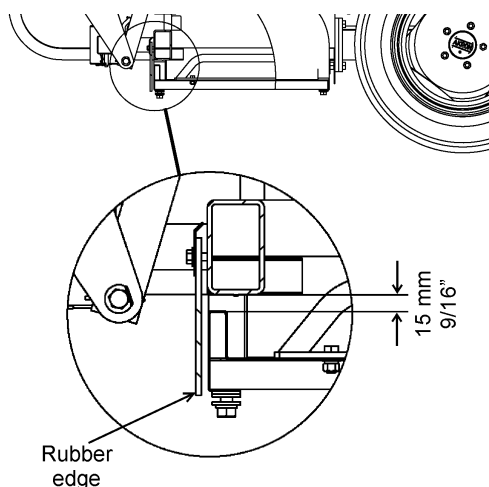

Figure 15 - Grain retainer rubber
7) Using the cranks again, tighten the tray-supporting cable until the tray is at some 10 cm (4") from the ground, parallel to the lower part of the silo tunnel. When adjusting the tray height, its lower part should coincide with the lower edge of the rubber that prevents grain returning. This way a 15 mm (9/16") clearance is set between the lower part of the tunnel and the tray, which allows the grain bag folds to be released smoothly and at the same time prevents the grain from returning to the tray, i.e. from falling outside the grain bag. Figure 15 and the additional detail explain this.